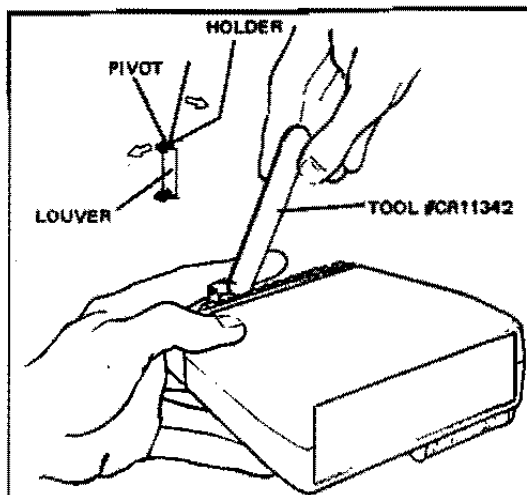

FIG. 4-21 REMOVING THE LOUVERS
- Remove the louvers using tool CR11342 (Figure 4-21). Place your finger over the louver and snap the pivot out of the holder. Remove all ten louvers in this manner.